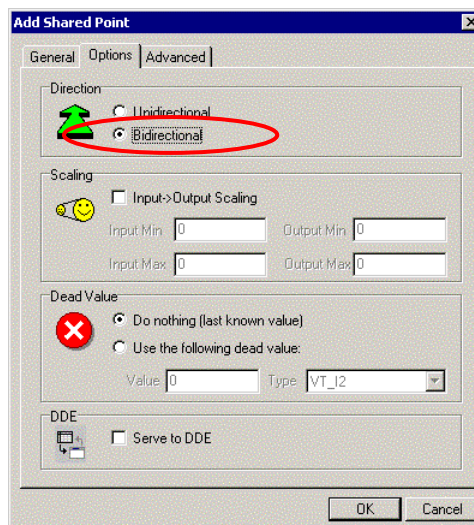

Figure 5-11. The Add Shared Point Options window
9. Select **Bidirectional** to allow data values to be written from one server to the other (Figure 5-11)